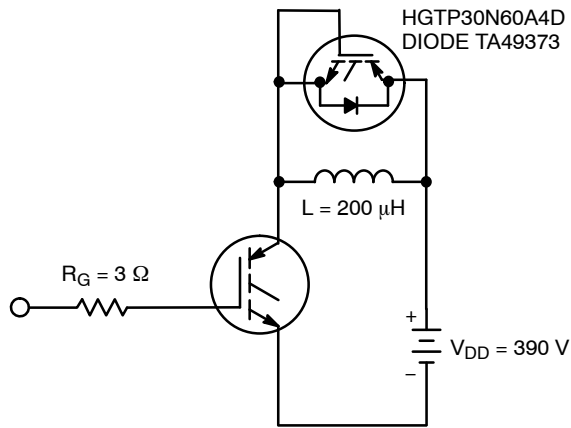

Figure 20. Inductive Switching Test Circuit
- Values for two Turn-On loss conditions are shown for the convenience of the circuit designer.  $E_{ON1}$  is the turn-on loss of the IGBT only.  $E_{ON2}$  is the turn-on loss when a typical diode is used in the test circuit and the diode is at the same  $T_J$  as the IGBT. The diode type is specified in Figure 20.